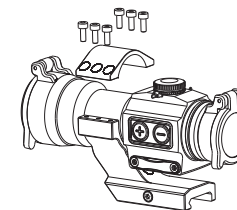

Fig 4
- Mount the sight on the bracket follow the direction and position which are shown in Fig4.